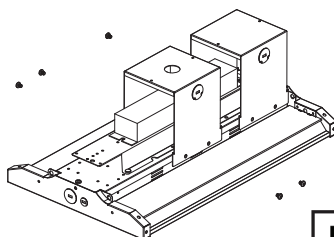

Fig. 2
2. Install pipe mounting bracket onto the fixture and secure it in place with the provided screws. **(Fig. 2)**